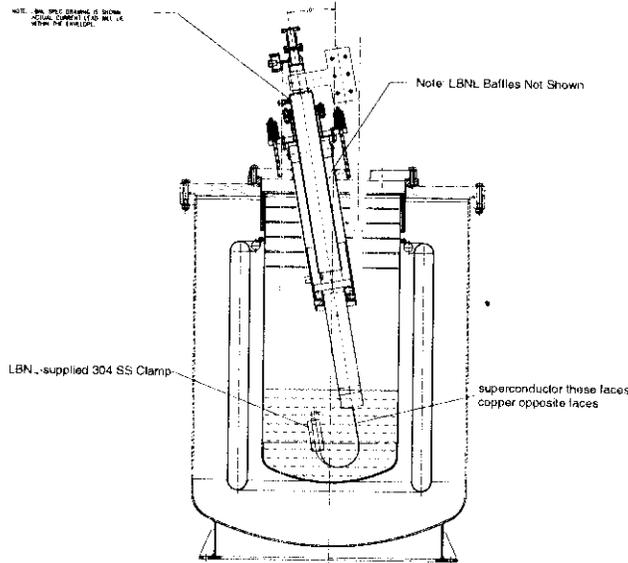
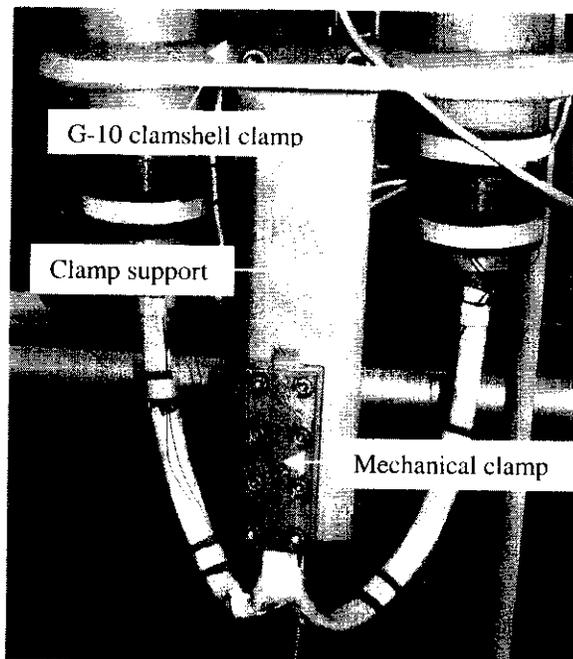

Figure 4.1a Side View of Lead in Cryostat with the LTS cables connected.
Figure 4.1b Electrical integration of the LTS sections.
4.2 Make connection to LTS pigtailed. The joint is a mechanical connection with a stainless steel clamp (supplied by LBNL) and indium foil between the cables to ensure good electrical contact. Figure 4.1a shows a rendition of the installed power leads. Figure 4.1b shows the G-10 clamshell clamp, the clamp support, and the mechanical clamp.